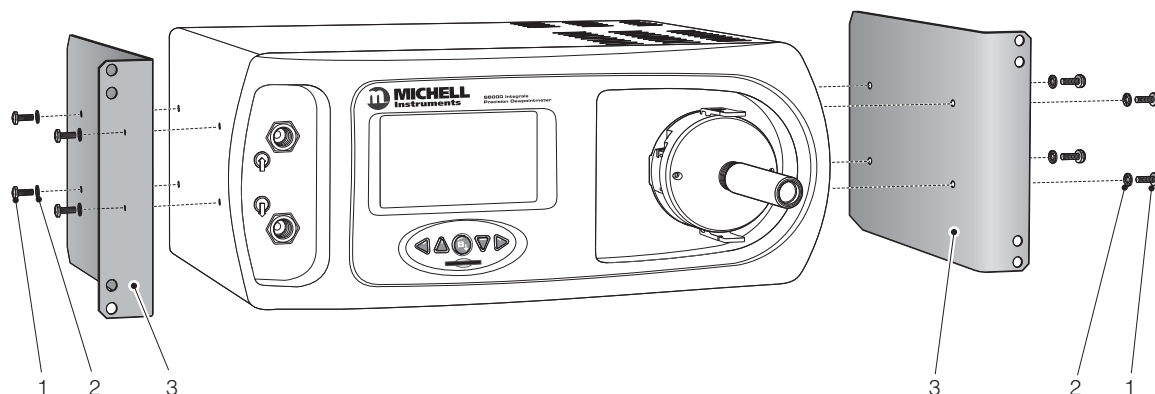

Figure 14 *Conversion of Horizontal to Rack Mount*
This conversion pack comprises two steel wings (3) and eight cap screws (1), each wing bolting to the side of the instrument with four screws as shown in *Figure 14*.